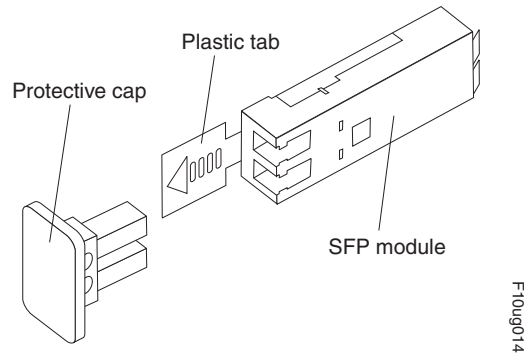

Figure 26. Small Form-Factor Pluggable (SFP) module
2. Remove the protective cap from the SFP module, as shown in Figure 26. Save the protective cap for future use.